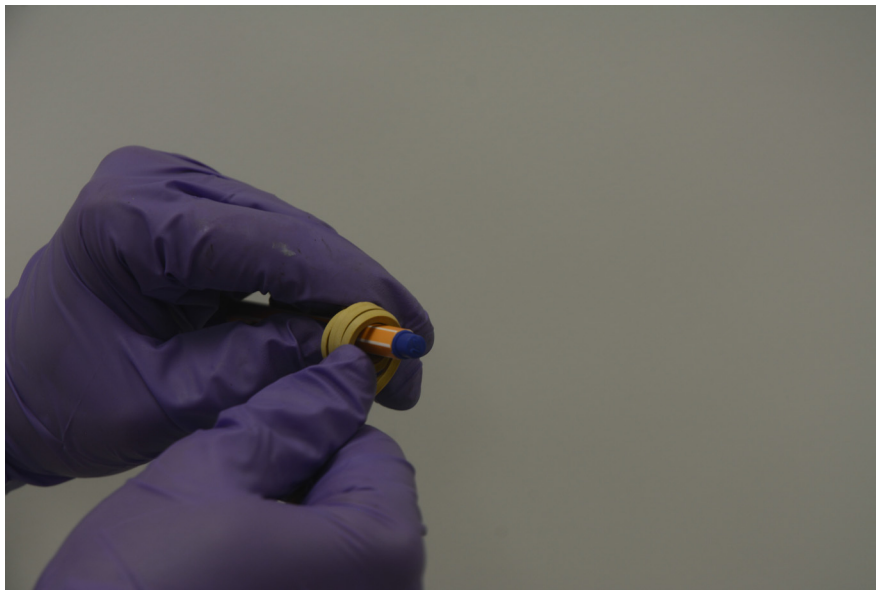

Figure 17. Add spiral to new tip seal
- 15 Wrap one end of a **new** tip seal several times around the shaft of a pen (see **Figure 17**). This helps establish a spiral and makes it easier to install the tip seal in its groove.